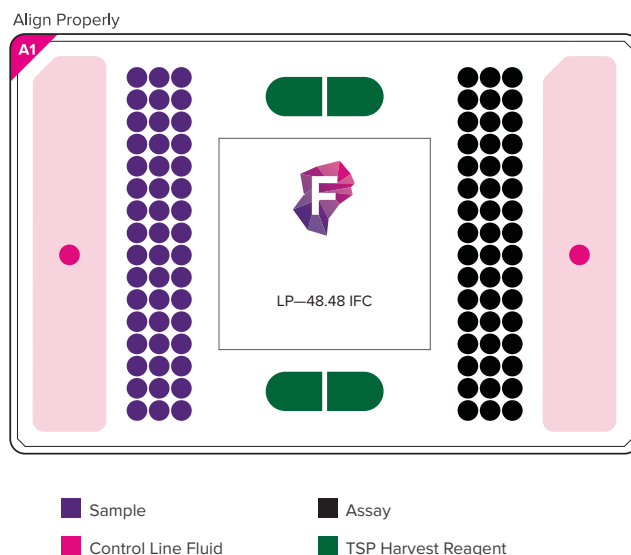
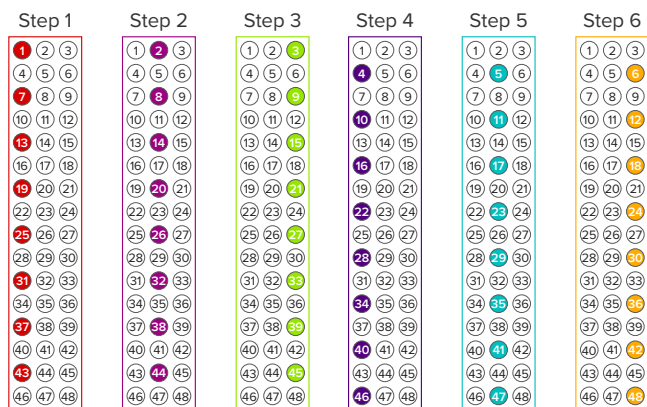

Figure 1. Map of the LP-48.48 IFC
Figure 3. IFC pipetting scheme for samples and assay pools
- 4** Load an entire syringe of LP-48.48 Control Line Fluid into one accumulator and a second syringe into the other accumulator (dark pink circles in Figure 1). Use only LP-48.48 Control Line Fluid.
- 5** Pipet 500 μ L of TSP Harvest Reagent (PN 101-0743) into each of the H1, H2, H3, and H4 harvest reservoirs (green hemispheres in Figure 1 and see diagram in Prime the LP-48.48 IFC).
- Pipet 4.0 µL of 20X assay pool into each of the assay inlets. [See Figure 1 (black circles) and the IFC pipetting scheme in Figure 3.]
- Pipet 4.0 µL of sample mix into each of the sample inlets. [See Figure 1 (dark purple circles) and the IFC pipetting scheme in Figure 3.]
- Remove remaining fluids from the H1–H4 harvest reservoirs [See Figure 1 (green hemispheres) and diagram in Prime the LP–48.48 IFC.]
- Pipet 650 µL of fresh TSP Harvest Reagent into the H1–H4 harvest reservoirs. [See Figure 1 (green hemispheres) and diagram in Prime the LP–48.48 IFC.]